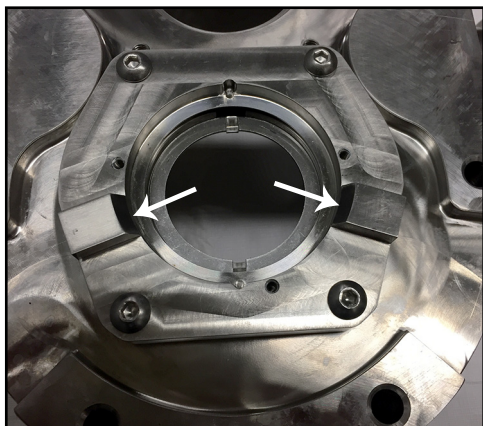

Figure 167 - Seal housing installed
11. Figure 167 shows the seal housing installed. Note the orientation of the flush ports (arrows).